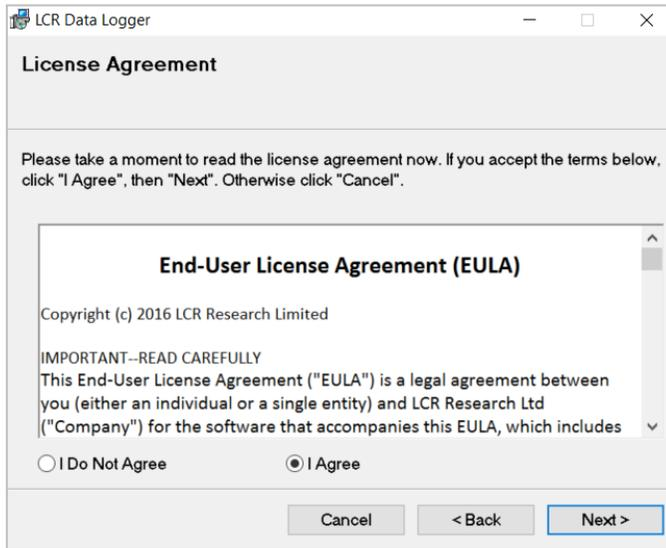

Figure 2-8: LCR Research End-User License Agreement
11. Select the **I Agree** option, then click the **Next** button as Figure 2-8 shows if you agree the LCR Research End-User License Agreement.